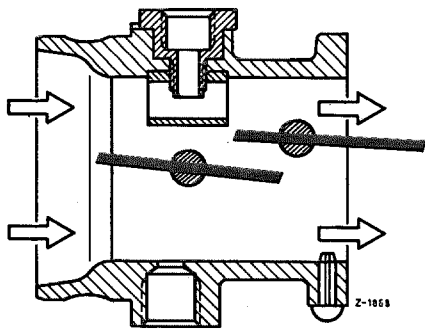

Fig. 07-21/2
If, on the other hand, the engine should "saw" while governing the check flap will flutter because it moves too easily and can then be somewhat restrained by placing a washer under compression spring (8) (refer to Fig. 07-21/4).